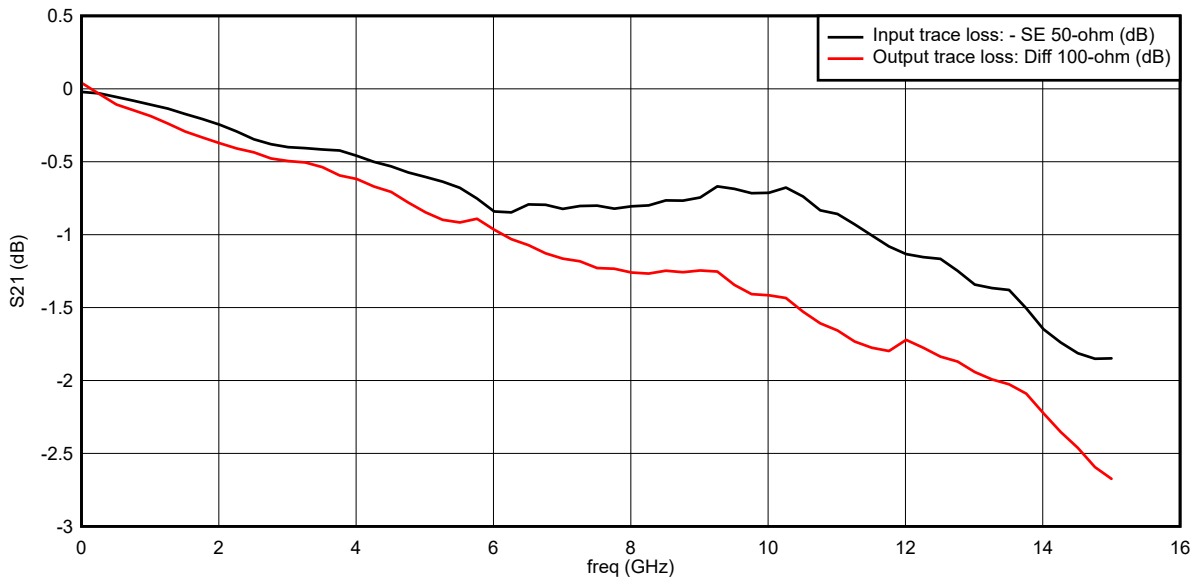

Figure 3-2. PCB Trace Loss vs Frequency
4. It is important to account for board trace losses at the input and output side of the device during gain measurements. Figure 3-2 gives typical input and output trace losses measured on the EVM.